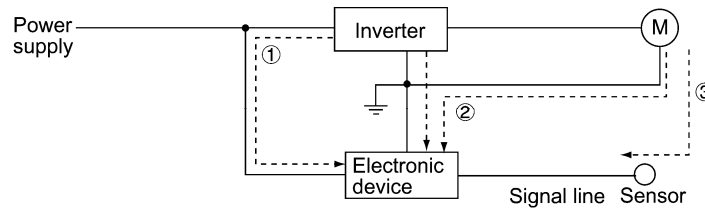

Figure A.3 Conduction Noise
Noise generated in an inverter may propagate through the conductor and power supply so as to affect peripheral devices of the inverter (Figure A.3). This noise is called "conduction noise." Some conduction noises will propagate through the main circuit ①. If the ground wires are connected to a common ground, conduction noise will propagate through route ②. As shown in route ③, some conduction noises will propagate through signal lines or shielded wires.